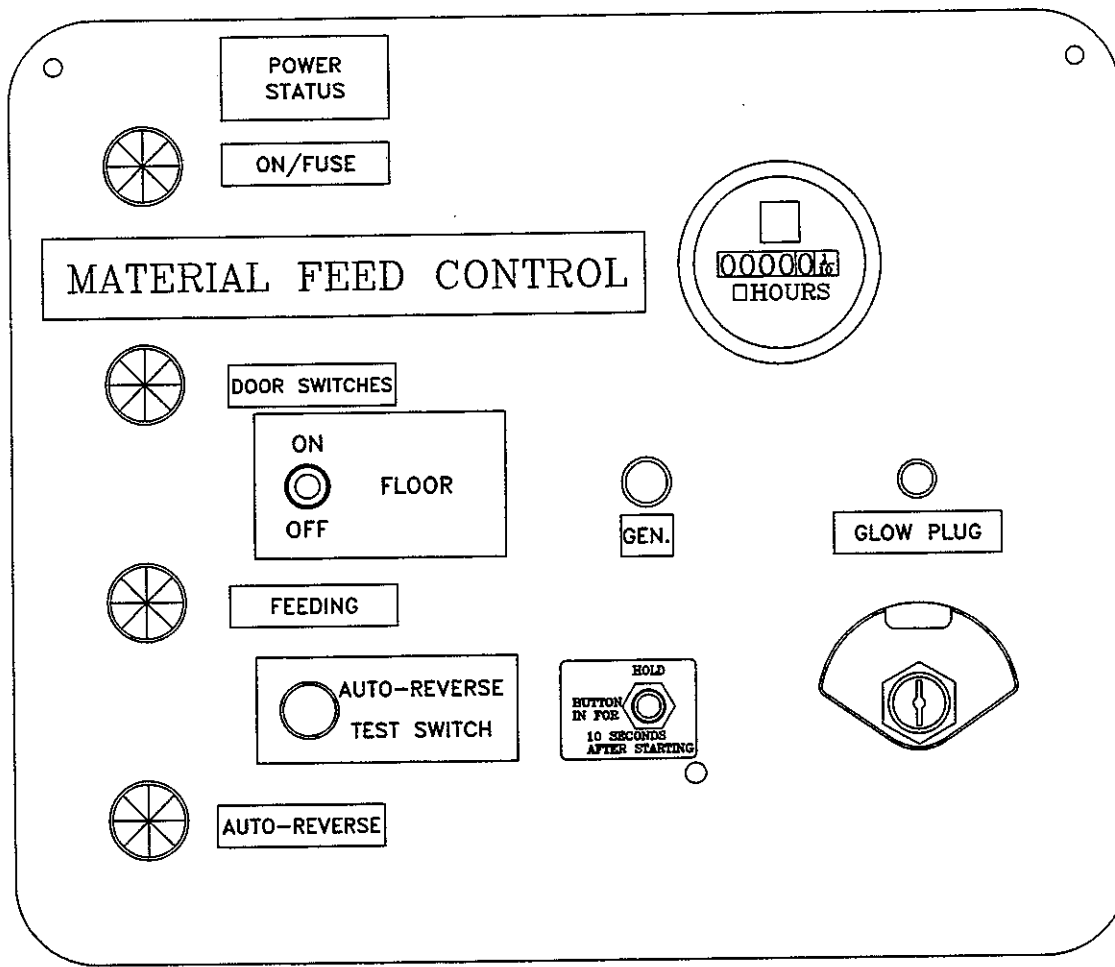

Figure 2
5. Check that the "ON/FUSE" and "DOOR SWITCH" lights are illuminated. If not, check the 10 AMP fuse in the control box (see Figure 2) and verify that the doors are closed at the rotary air valve.
When the "start" button is pushed, the CR1 and CR2 relays in Figure 2 are energized. This in turn energizes the "forward" solenoid on the solenoid valve, starting the air lock and the drag conveyor, assuming the conveyor toggle switch is "on". As material drops into the top of the rotary air valve, the pressure to turn the rotary air valve varies. If the pressure reaches the relief valve setting in the solenoid control valve, the oil is channeled through the relief to the hydraulic tank. Placed in the forward work line is a normally open pressure switch. When the pressure in the work line exceeds the pressure switch setting, the switch then closes and activates timer TR1.
## **Bark Blower with Power Status Lights: (See Figure 2)**